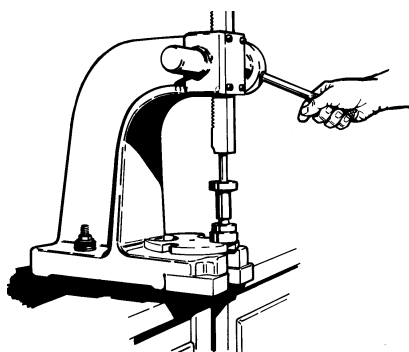

Figure 4-23
- Using an arbor press, install the bearings on the shaft prior to installing the shaft into the pedestal. A steel "donut" with the proper inside diameter and outside diameter, refer to Chart 1, should be used between the arbor face plate and the lower bearing to insure proper installation and to prevent bearing damage. The bearings must seat against the shoulder for proper alignment. Refer to Figure 4-23. \*Also refer to Alternate bearing installation procedures.